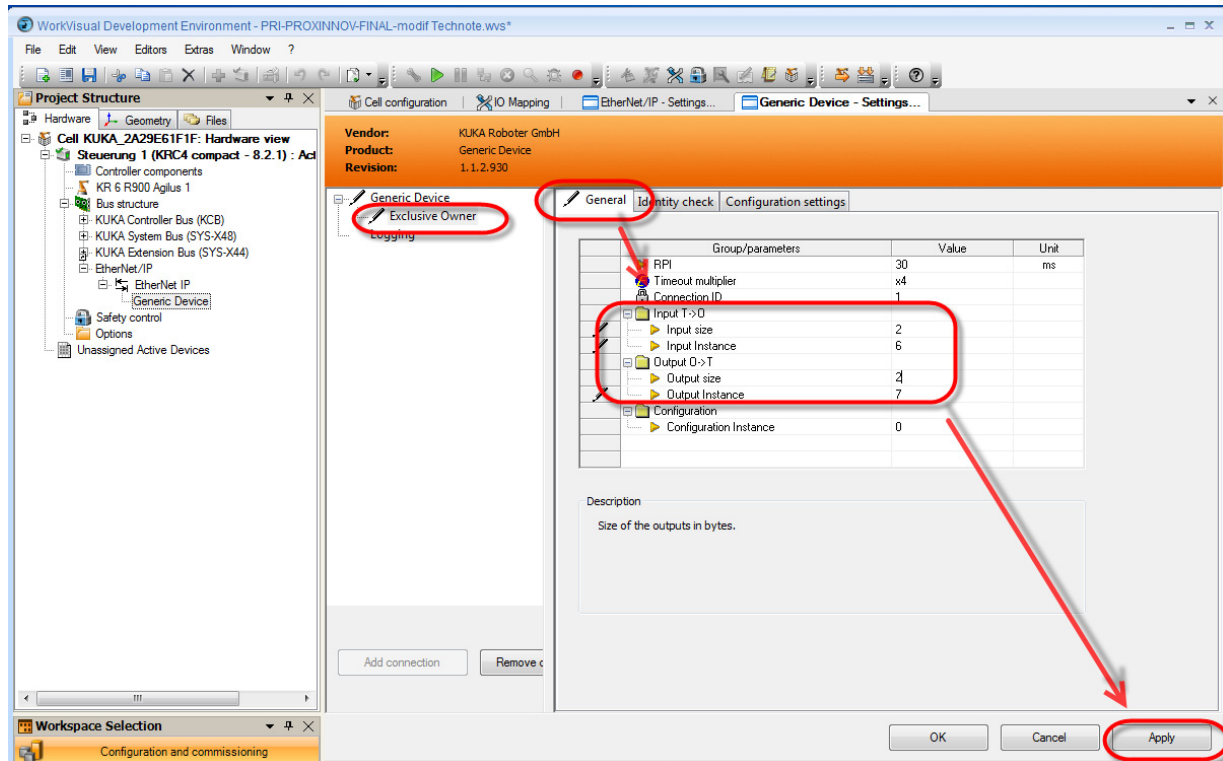

Figure 21.
12. Referring to Figure 21, configure the EtherNet/IP Inputs and Outputs by clicking on *Exclusive Owner – General*, and click the *Apply* button.